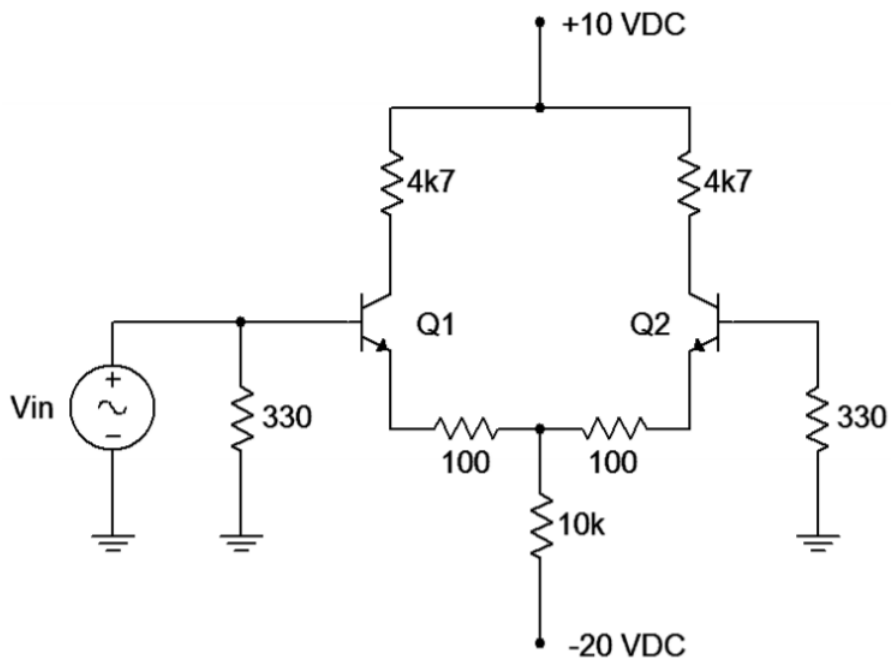
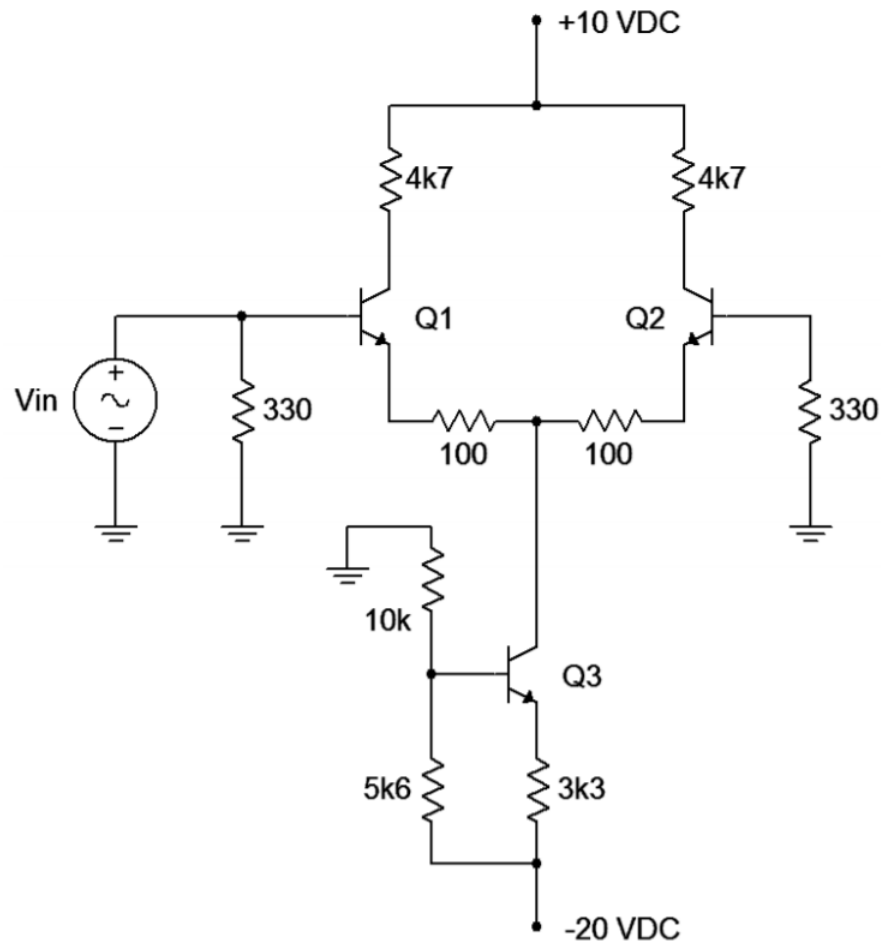

Figure 2.5.2
Figure 2.5.3
5. Calculate the differential voltage gain and collector voltages for the amplifier of Figure 2.5.2 using an input of 20 millivolts, and record them in Table 2.7.2.
6. Assemble the circuit of Figure 2.5.2.
12. Assemble the circuit of Figure 2.5.3. This circuit uses an improved tail current source that exhibits much higher internal impedance than the circuit of Figure 2.5.2. This should yield a decrease in common mode gain which, in turn, should yield an improved CMRR. Note that the new circuit sets up virtually the same tail current, therefore producing approximately the same DC parameters and differential gain as the original.
14. Continuing with the amplifier of Figure 2.5.3, turn the signal down to 0. Estimate and then measure the results for each individual error presented in Table 2.7.5.
15. Build the amplifier of Figure 2.5.2 in a simulator and run a Transient Analysis echoing steps 5 through 8. Compare the results to the data found in Table 2.7.2.